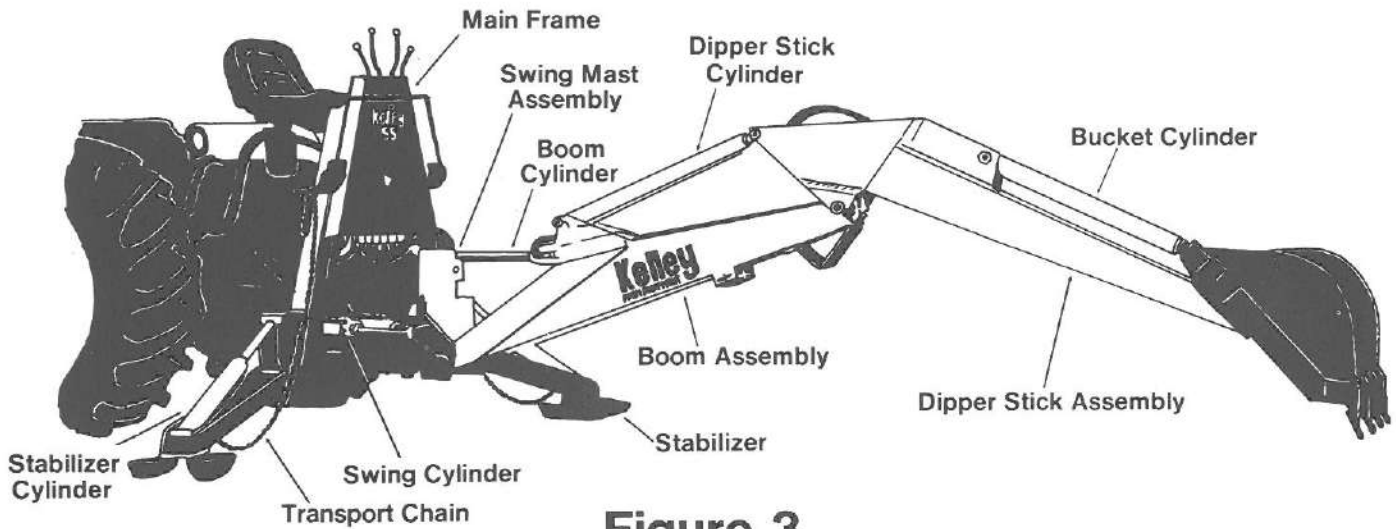

Figure 3
10. Familiarize yourself with all of the terms that will be employed in the following instructions by studying Figure 3 -- Description of Major Backhoe Parts.